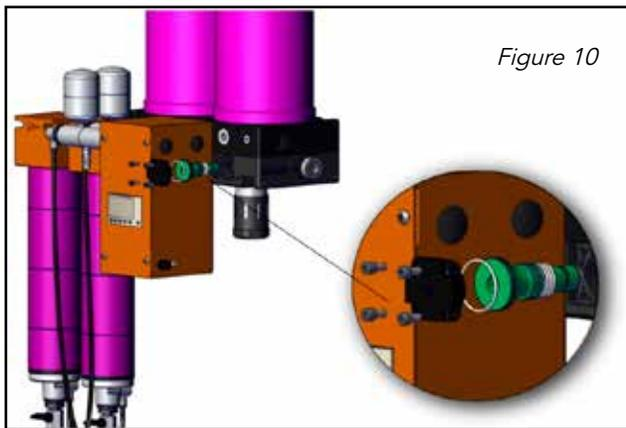

Figure 10
3. Using a 4 mm hex key wrench, remove the four socket head cap screws holding the piston cover in place; remove piston cover for access to piston. *Figure 10*
4. Using a 1/2"-13 bolt, remove the piston; be sure to remove the piston spring. *Figure 10*